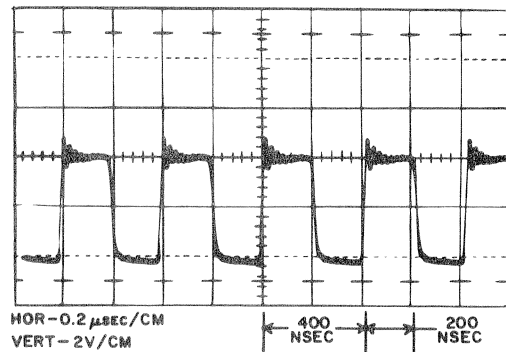

Figure 6-21. Pulse Shaper Trace
- c. Select any head and read Track 202. Make oscilloscope settings and a trace comparison according to Figure 6-21.